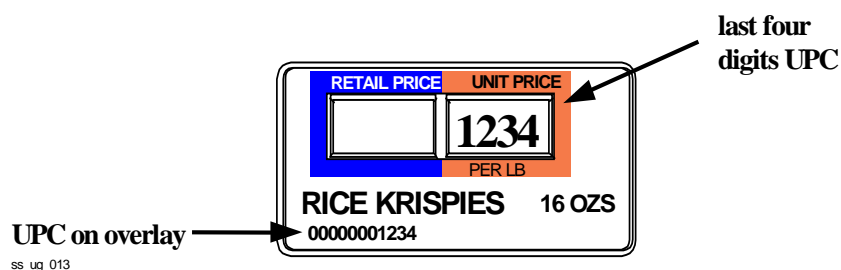

Figure 5-9. ESL Displaying Last Four Digits of UPC
2. Compare the four digits displayed on the ESL to the last four digits of the UPC on the overlay. (See *Figure 5-9, ESL Displaying Last Four Digits of UPC.*) Then compare the four digits displayed on the ESL to the last four digits of the UPC on the product. If all three UPCs match go to step #3. If all three UPCs do not match, go to step #4.